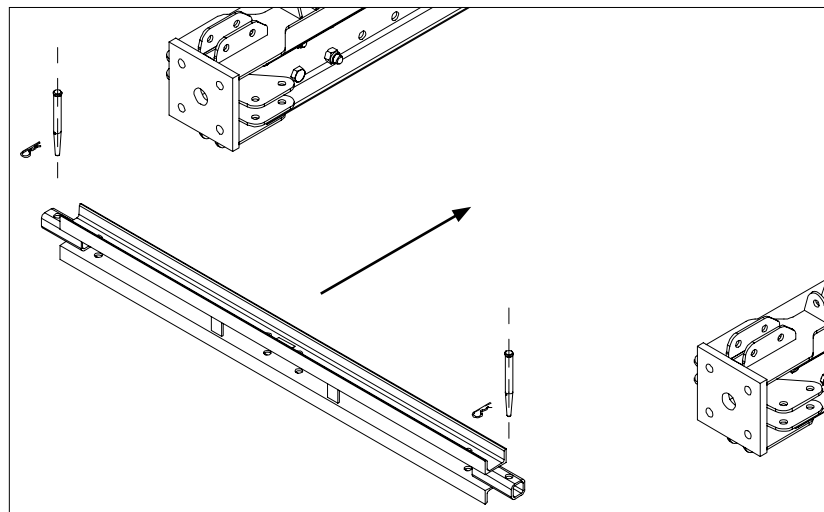

Fig. B3.01b
4. Repeat the procedure for all Horizontal Ledgers VST 200 (**23**). (Fig. B3.01b)